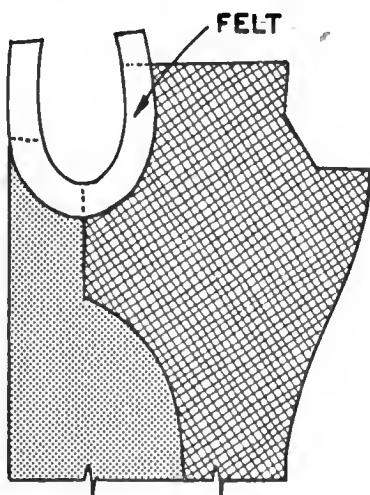

Fig. 105B. Adding felt to a man's coat.
- D. On a man's coat, the felt is cut to fit the entire armscye without an underarm seam (Fig. 105B).
- A. The cotton felt may be attached to the forepart after the canvas is shaped (Fig. 105B).